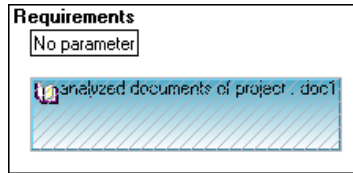

Figure 4-3. Inserted Analyzed Documents Element
9. Select the **project»Contents»analyzed documents** element and drag the element to the selected Requirements object in the report, as shown in Figure 4-3.